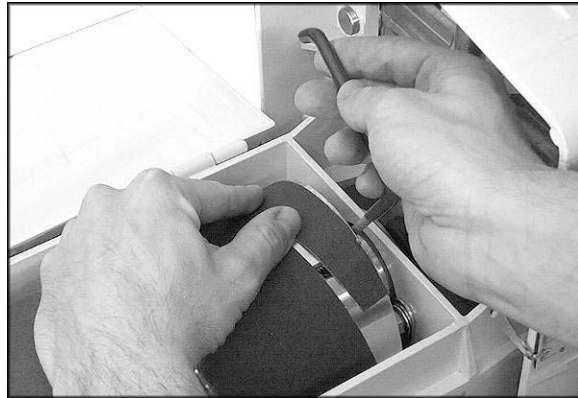
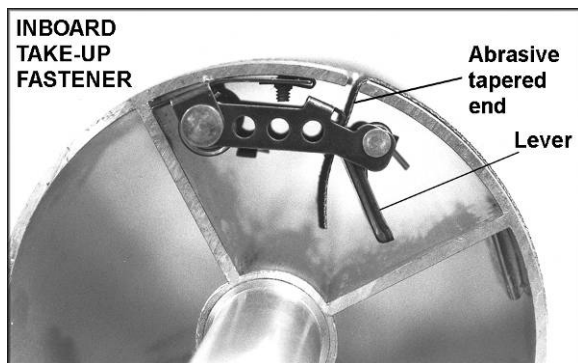

Figure 14
Figure 16
8. You can use your fingers to work the infeed take-up fastener, but it will be more convenient to use the TUFTool supplied with your sander. Hold the TUFTool with the red end pointing away from you (Figure 14) and insert its hook into the outside hole of the fastener lever (see Figure 16).
12. Hold the abrasive in place with your left hand, lift up the TUFTool and turn it clockwise while maintaining upward pressure. Slowly move the TUFTool away from you slightly, then down, while easing it out of the hole. This releases the lever in its proper position (Figure 16).